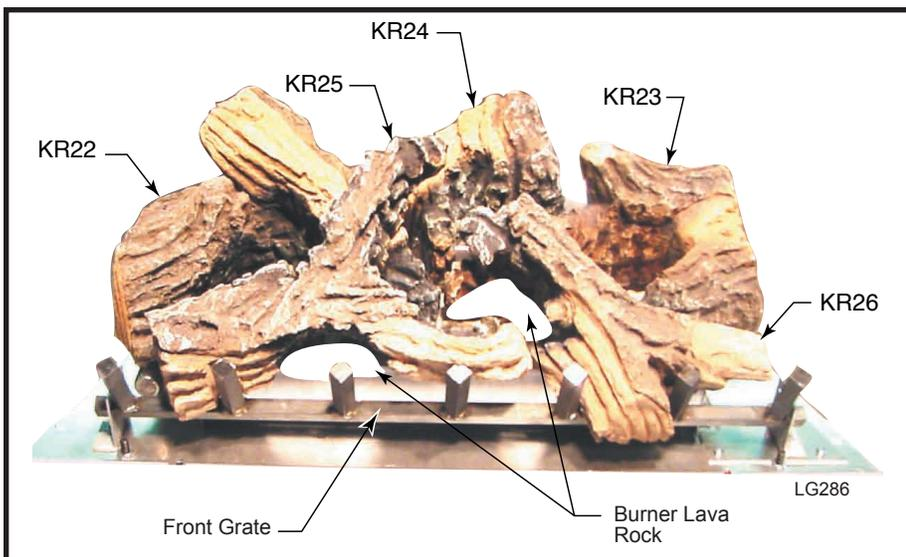

Fig. 19 LHEC30 and LHER30 log and lava rock placement.
LHEC30, LHER30 (Fig. 19)
- a. Place the rear center log (KR24). Use the log's bottom holes to locate it onto the two (2) pin studs of the rear log bracket on the center.
- b. Place rear left log (KR22). Use the log's bottom holes to locate it onto the two (2) pin studs of the rear log bracket on the left.
- c. Place rear right log (KR23). Use the log's bottom holes to locate it onto the two (2) pin studs of the rear log bracket on the right.
- f. Place the burner lava rock on the front area of the burner housing. (Fig. 19)